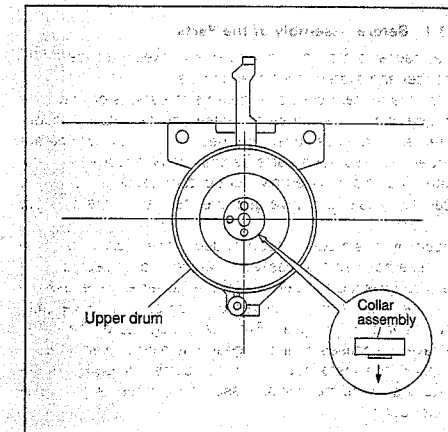

Fig. 2-2-41
- (3) Position the collar assembly as indicated in Fig. 2-2-41, while controlling its up-down movement.